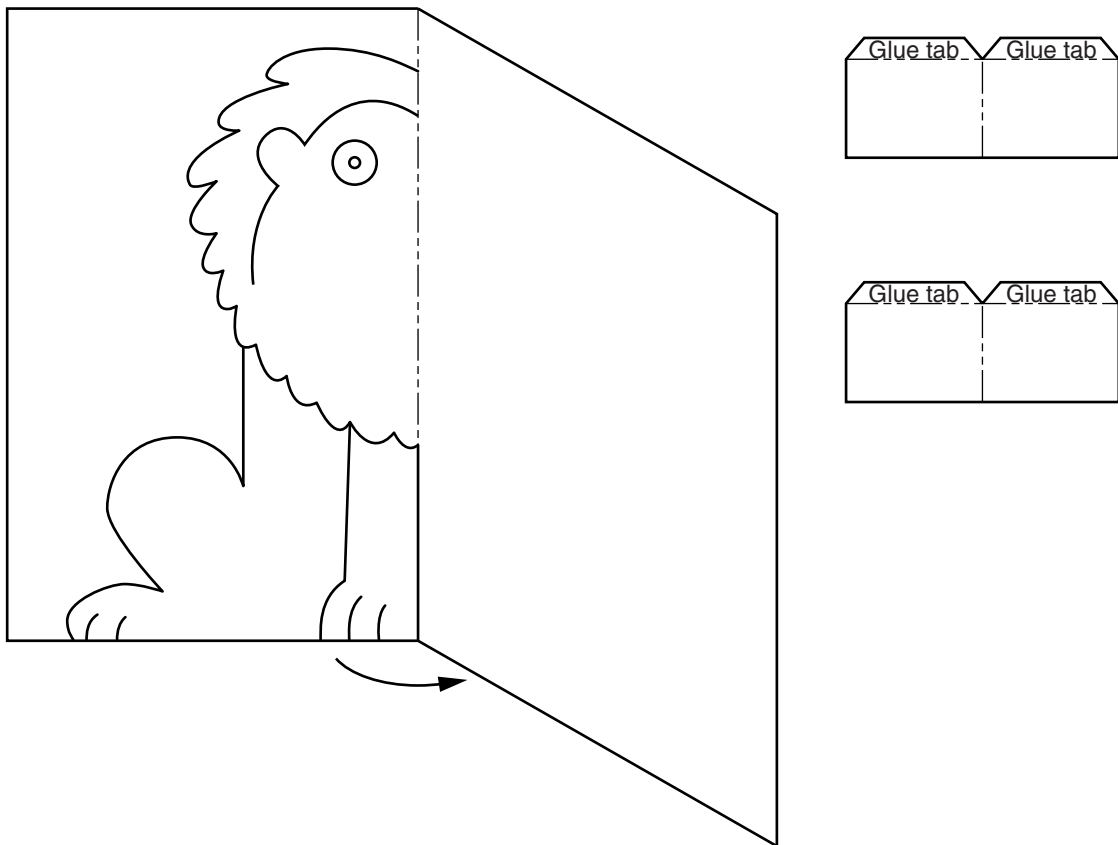

Fig. 3
- 3** Fig. 3 shows the three incomplete parts required to make a pop-up card with a V-fold mechanism. The two smaller pieces of card are glued onto the head of the lion to form a mouth. When the card is opened the mouth of the lion closes. The pop-up card will be made in a school workshop.